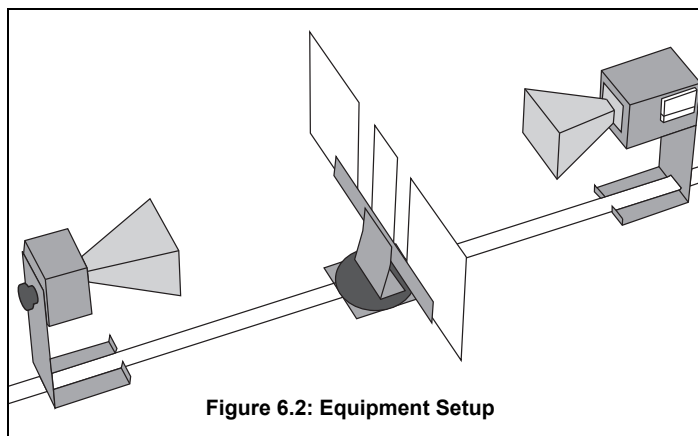

Figure 6.2: Equipment Setup
1. Arrange the equipment as shown in Figure 6.2. Use the Slit Extender Arm, two Reflectors, and the Narrow Slit Spacer to construct the double slit. (A slit width of about 1.5 cm is recommended.) Be precise with the alignment of the slit and make the setup as symmetrical as possible.